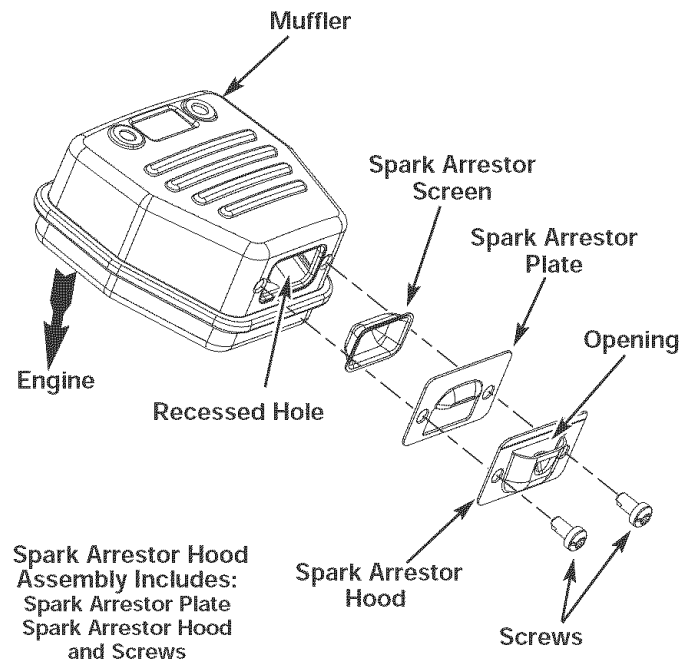

Fig. 26
2. Locate the muffler, but do not remove it. Find the two (2) screws on the bottom of the muffler (Fig. 26). These two screws hold the Spark Arrestor Hood Assembly and the spark arrestor screen to the bottom of the muffler. Remove the two (2) screws using either a torx #20 or flat blade screwdriver.
6. Place the spark arrestor plate on top of the spark arrestor with the "raised" side up and the opening facing towards the engine (Fig. 26).
7. Place the spark arrestor hood on top of the spark arrestor plate with the "raised" side up and the opening facing AWAY from the engine (Fig. 26). Verify that the exhaust will be directed AWAY from the engine.